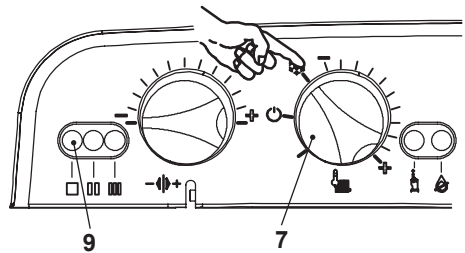

Fig. 2.4
- Turn on the electricity supply to the boiler switching on the fused spur isolation switch. The appliance operation light 9 (Fig. 2.4) will flash every 4 seconds (stand-by condition).
- To operate the boiler, position the function selector 7 as in Fig. 2.4. The appliance operation light 9 will flash every 2 seconds